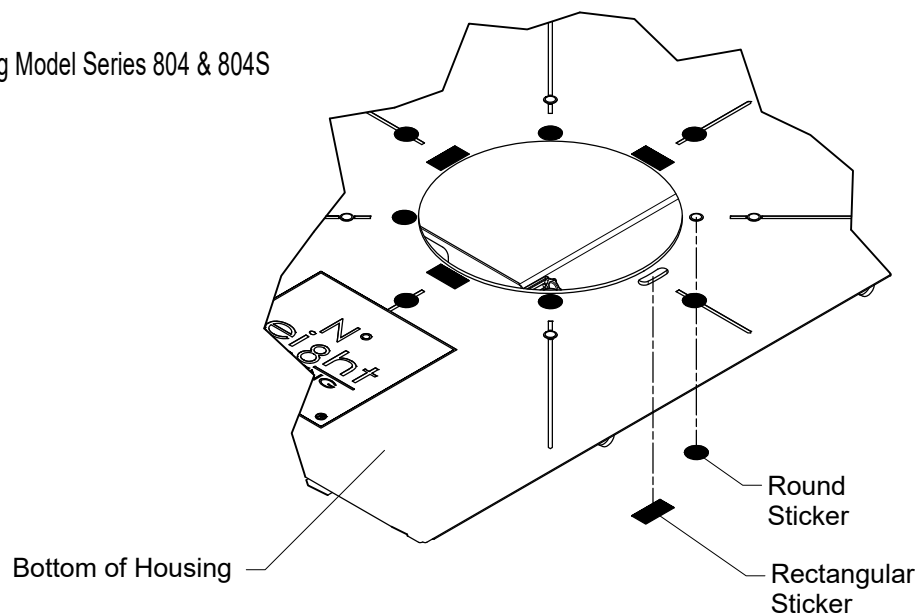

FIG 3.3 Add Stickers to Housing Aperture Holes & Slots
STEP 5 To reduce possibility of light leak, apply Stickers over unused holes & slots as shown - FIG 3.3.